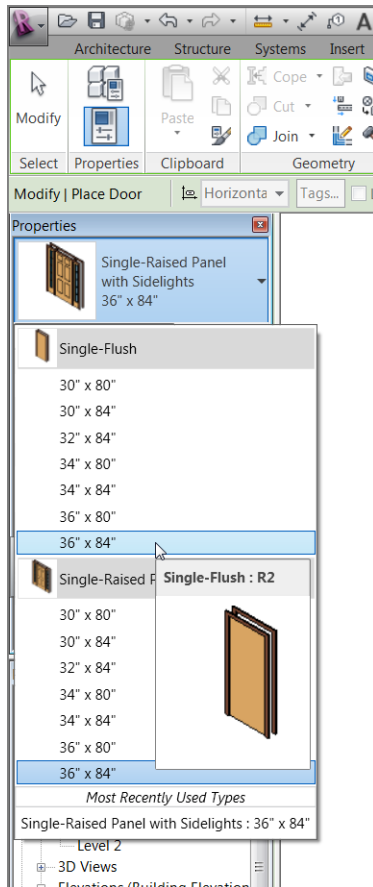

FIGURE 1.52: Each family .rfa file contains multiple types associated with that family.
7. In the *Properties* dialog, click the *Type Selector*, as shown in Figure 1.52. Notice that in addition to bringing in the door family, you also have seven different types of the door. These types are simply variations of the same door. You no longer have to explode a block and modify it to fit in your wall.
8. Select Single-Flush 36" × 84" (915mm × 2134mm), as shown in Figure 1.52.